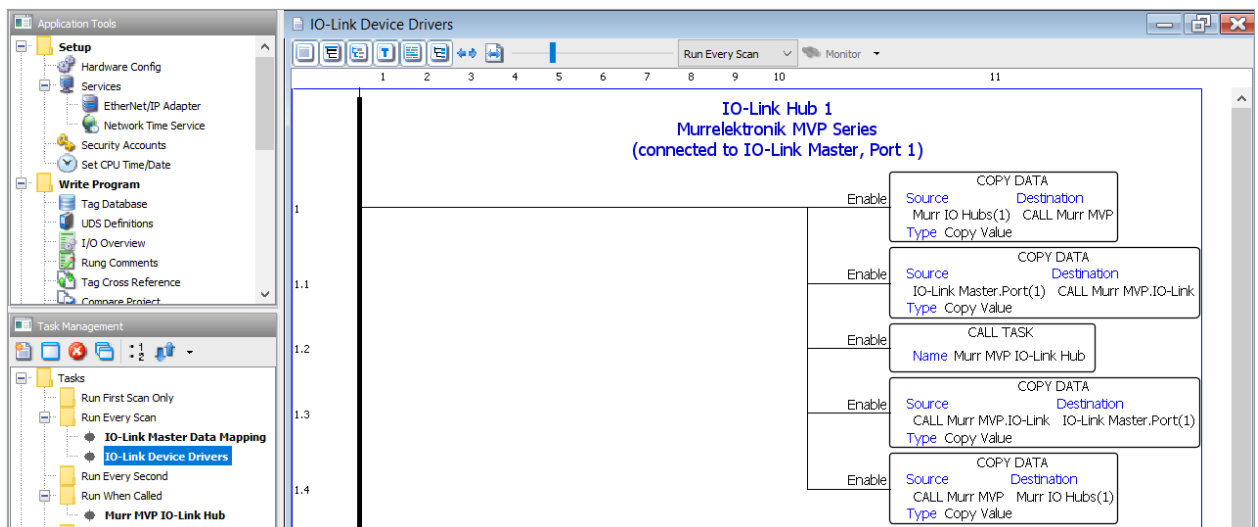

Fig. 7-21: IO-Link Device Drivers task – Murr MVP IO-Link Hub.
- In the Tag Database, create a ‘Murr IO Hubs’ tag that is a 1D array of the User Structure data type ‘Murr DIO Hub’. Then in the Run Every Scan task folder, create a new task (called **IO-Link Device Drivers** in this example) and add the **Copy Data**, **Call Task**, and **Copy Data** instructions as shown on rung 1 in Fig. 7-21. The IO-Link port number that the Murr MVP IO-Link Hub is connected to on the master module must correspond to the index number of the ‘IO-Link Master.Port’ tag in the second and third Copy Data instructions, as shown on rung 1 in Fig. 7-21 (IO-Link Master.Port(1) in this example). (In this example the device is connected to port 1 = X0 on the master module.)